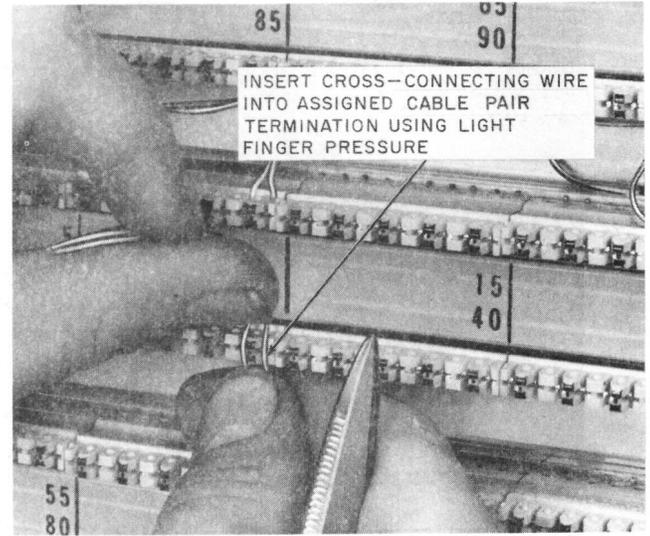
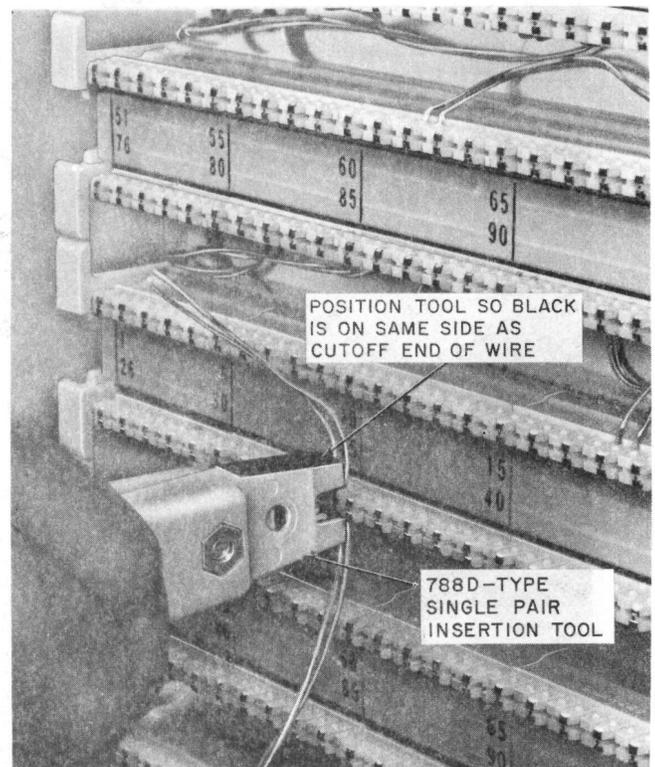

Fig. 2—Inserting F Cross-Connecting Wire Into 88-Type Connecting Block
Fig. 3—Seating and Cutting Cross-Connecting Wire Into Connecting Block
- (a) At the **feeder cable terminations** (GREEN field), insert the 2-conductor F cross-connecting wire into the 88-type connecting block slots, splitting the tip and ring over the high tooth which is colored black as illustrated in Fig. 2. Light finger pressure is sufficient to temporarily retain the cross-connecting wire in its proper location. Using a single pair insertion tool (see Note), seat and cut the cross-connecting wire in the connecting block, as illustrated in Fig. 3.